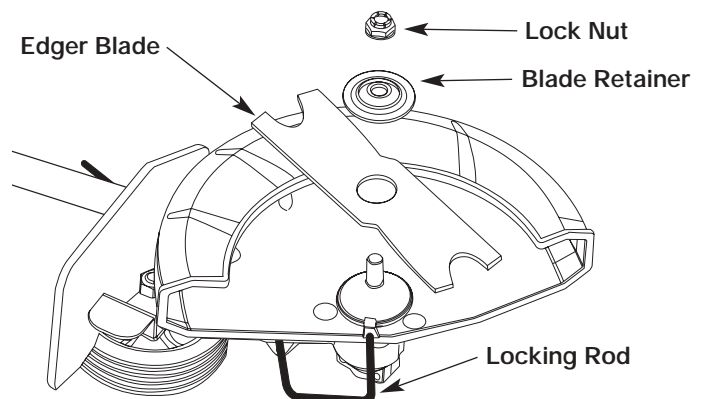
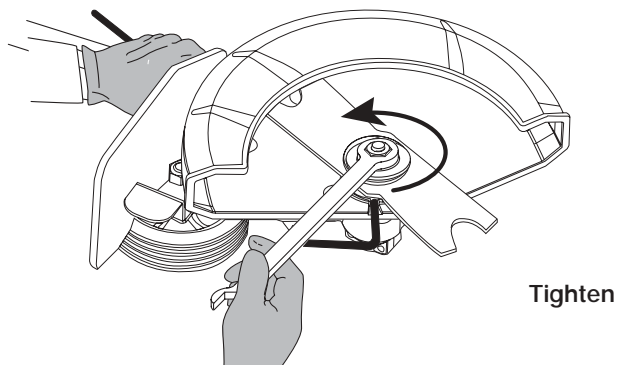

Fig. 32
Fig. 33
4. Install the new blade, blade retainer and nut (Fig. 32). Insert the locking rod through the slot into the output shaft hole. Make sure that the blade stays flat and centered against the output shaft while tightening the lock nut **counterclockwise** (Fig. 33).
If you do not have a torque wrench, hold the locking rod in the slot. Rotate the nut **counterclockwise** with a 5/8 inch closed-ended or socket wrench, until the nut presses against the washer and the blade is snug. Make sure the blade assembly is installed correctly, then rotate the nut an additional **1/4-1/2 turn** (Fig. 33).